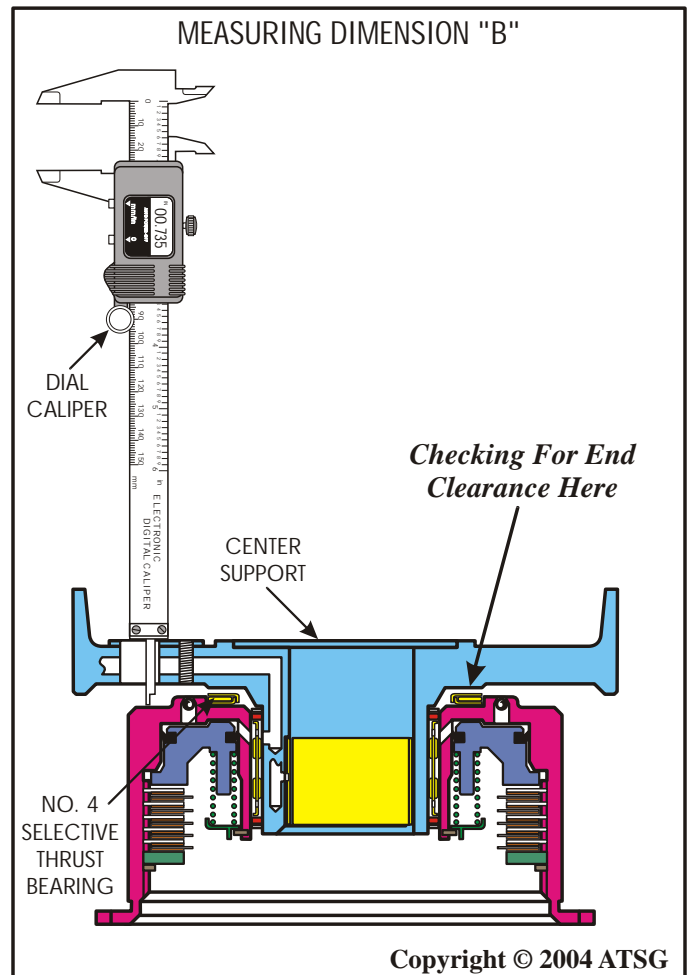

Figure 155
39. Now we must once again measure with the dial caliper through the speed sensor hole down to the surface of the direct clutch housing with all of the parts installed in the case, as shown in Figure 155, **and record this as dimension "B"**.